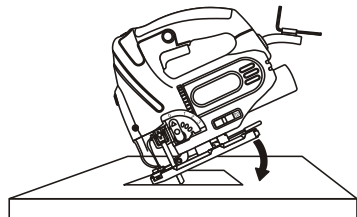

Fig. 15
3. Tilt the jigsaw forward so it rests on the front edge of the base plate and in a position where the blade will NOT touch the workpiece when the switch is turned ON (Fig. 15).